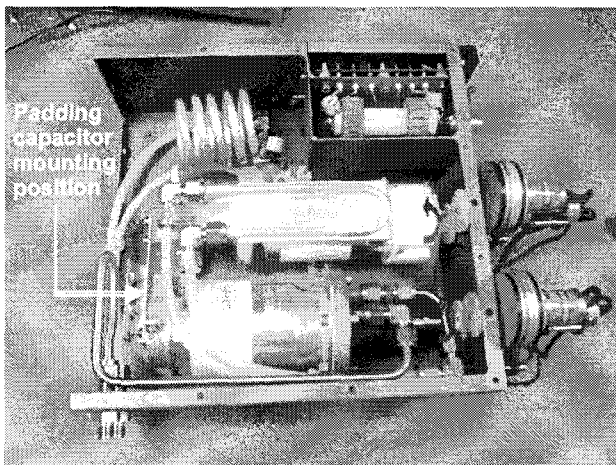

Fig 5: Capacitor shafts rotation direction
- 5) Confirm the operation of each motor using the manual drive. An increase in capacitor position should make the vanes overlap more. In the case of a vacuum capacitor, an increase in position should turn the capacitor shaft anti-clockwise, when looking at it from the motor end (see Fig 5). Check with a capacitance meter in case of doubt.
To find the minimum position, turn the capacitor shaft in the direction of the arrow, shown in Fig 5.
To find the maximum position, turn the capacitor shaft opposite to the direction of the arrow in Fig 5.
(Applies to all system types) Rotate the vacuum capacitor shaft clockwise as you look at it from the motor end (see Fig 5) until the shaft just becomes stiff, and then turn in half a turn. Making sure the motors don't mesh, drive both motors to minimum (000).